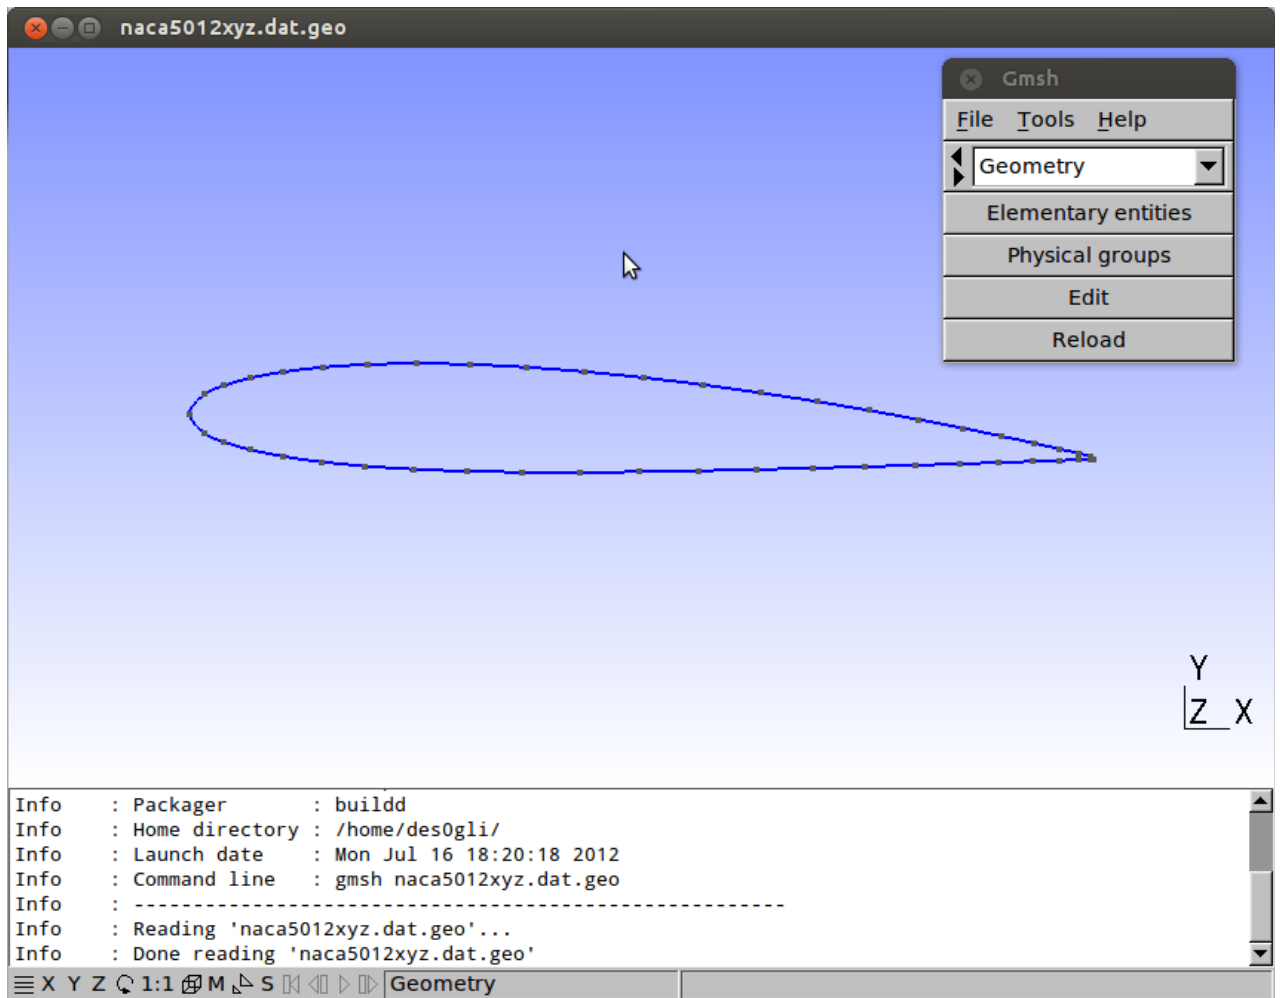

Figure 2: Points Converted to gmsh format
- The script then converts the points in the `naca5012xyz.dat` file into a *gmsh* set of points and then put a spline through them. The output looks something like Figure 2, to obtain something like this figure run the command: